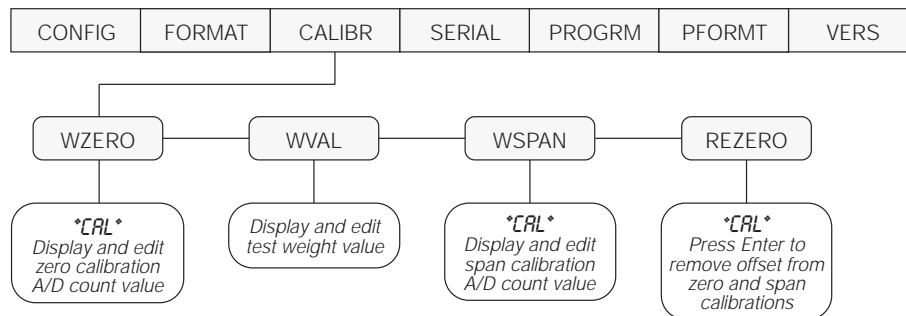

Figure 4-1. Calibration (CALIBR) Menu
2. Press \triangleright until the display reads *CALIBR* (see Figure 4-1). Press ∇ to go to zero calibration (*WZERO*).